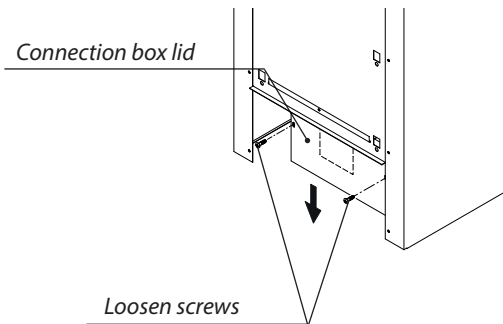

Fig. 6
- Open the cover of the terminal box (release 2 screws) as shown in Fig. 6 and remove the cover lid downwards.